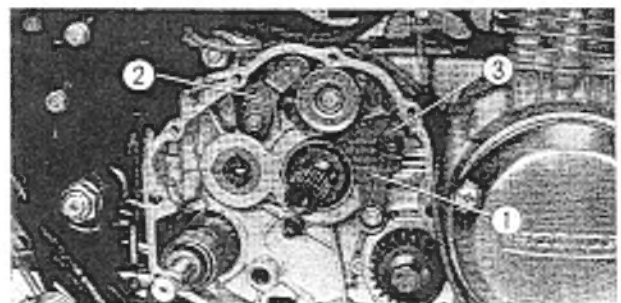

Fig. 3-41 ① Positive stopper
6. Disassemble the positive stopper, gear shift drum stopper and neutral stopper arm. Fig. 3-41 indicates the transmission gears in neutral.